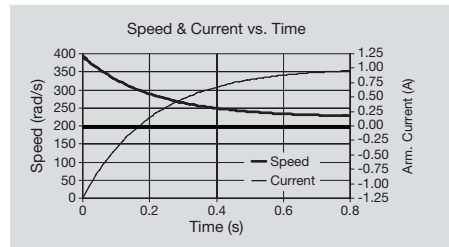

**Figure A.9 Supply Voltage is Step-Changed from 14 V to 8 V**
The graphs of the speed and current functions that have been calculated from the simplified model are shown in Figure A.9.
**EXAMPLE 2** (Figure A.9): same motor and load parameters, battery voltage is stepped down from a steady state **14 V to 8 V**.